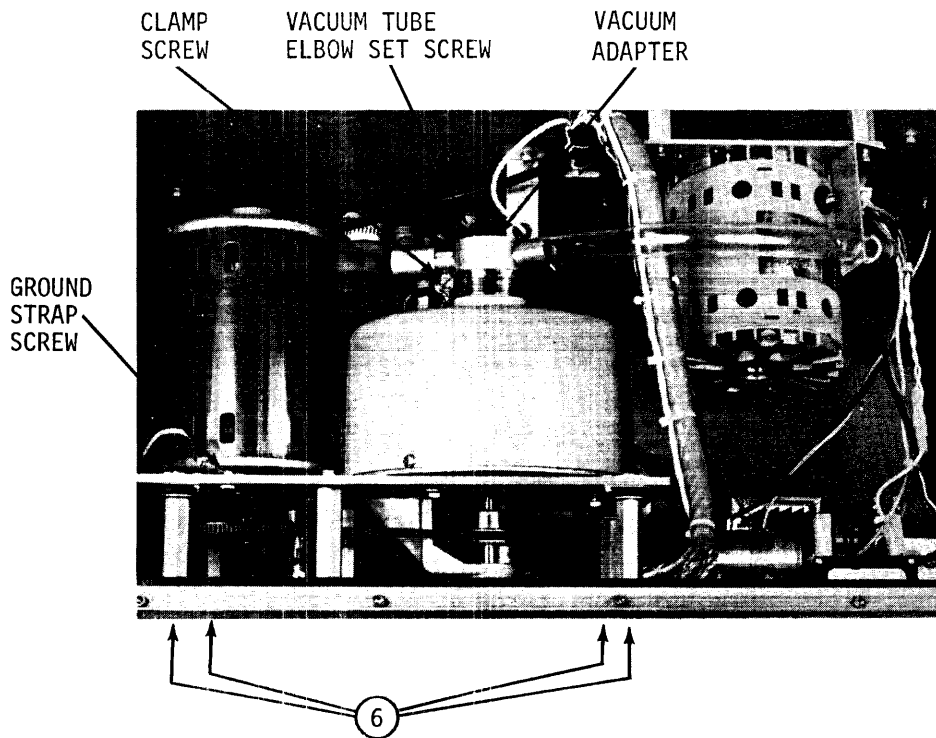

Figure 9-11. Removal of Vacuum Pump Motor Assembly
- f. Using a .050 Allen wrench, LOOSEN #440 set screw in vacuum tube elbow and pull elbow downward, figure 9-11.
- g. LOOSEN vacuum adapter clamp screw at top of vacuum pump assembly and remove this assembly from card reader, figure 9-11. The adapter will lift out with a slight upward pressure.
- h. Remove screw holding ground strap to subframe, figure 9-11.
- i. Using a 1/2" open end wrench to hold the mounting posts, remove four Phillips head screws (6) located on bottom of card reader chassis (holding vacuum pump motor assembly), figure 9-11. Use the 1/2" open end wrench to prevent damage to the vibration isolators.
- h. Using a .050 Allen wrench, LOOSEN vacuum tube elbow set screw, figure 9-11. Slide elbow off vacuum tube and move to left.
- i. LOOSEN adapter clamp screw at top of vacuum pump assembly and remove this assembly from card reader, figure 9-11. The adapter will lift out with a slight upward pressure.